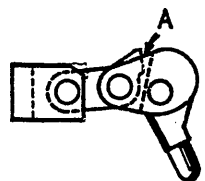
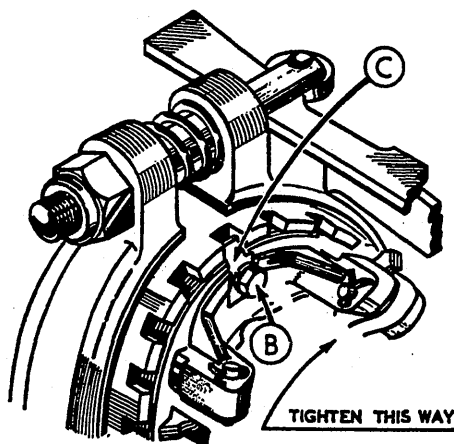

FIG 2
FIG 3
- (g) Check for worn or unevenly adjusted Toggles and Toggle Links. These may have been replaced at some time and were not correctly adjusted to produce even pressure on the clutch plates through the plungers. Examine the links; they should all come into correct closed position at 'A' as shown in Sketch Fig. 1. Should one of the links close up and two remain open as in Fig. 2, then the link that shows correct should be filed slightly at 'A' until all bear equally at this point when closed. If two links show correct and the third open, then both closed ones must be filed slightly until this space is closed by all three toggles. As this is most important when fitting new toggles it is best to order three complete sets of toggle assemblies comprising Parts Numbers M24, M25, M28, M23, M26 and 27. When adjustment is fairly tight, the lever should throw in with a snap and require a sharp pull to disengage the toggles.
Ahead clutch must not be adjusted so tight that toggles will not close up with links at 'A' Fig. 2. Fig. 1 shows correct position with central pin just past dead center and therefore locked in ahead without constant pressure on the control lever and operating colliar.
Turn drum so that tab 'C' is at top position. See Fig. 3. Pull control lever aft so as to lock drum. Slack off screw 'B', lift tab 'C' out of slot. Tighten ahead clutch by turning clockwise aft portion that carries toggles. Correct adjustment is important. If too tight gear will not remain in ahead. See Fig. 2. If too slack the clutch will slip under load. A notch or two either way will make all the difference. Note the tab is offset and can be reversed for closer adjustment.